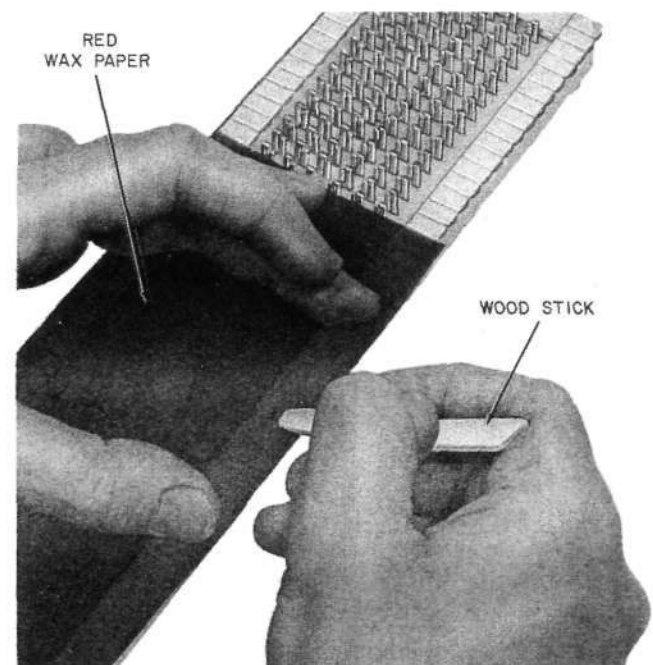

Fig. 4—Using Silicone Treated Paper to Secure Bond
- (3) Place the silicone treated backing sheet over the transferred letter or numeral and rub again with the square end of the wooden stick. See Fig. 4.
- (4) Remove the silicone treated backing sheet.
- (5) Any excess or unwanted transfers may be scraped off with a pointed or sharp object such as a knife blade.